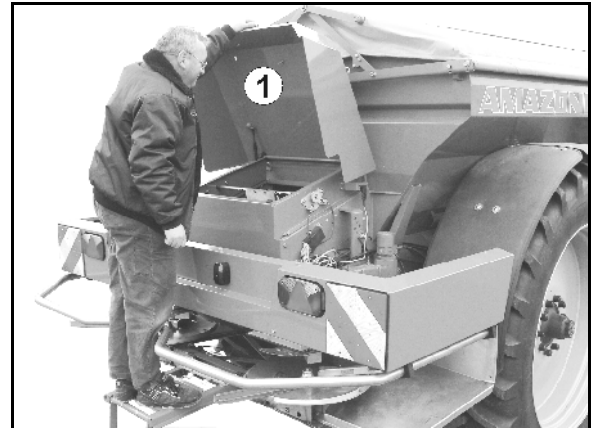

Fig. 79
1. Release lock button of hood (Fig. 79/1).